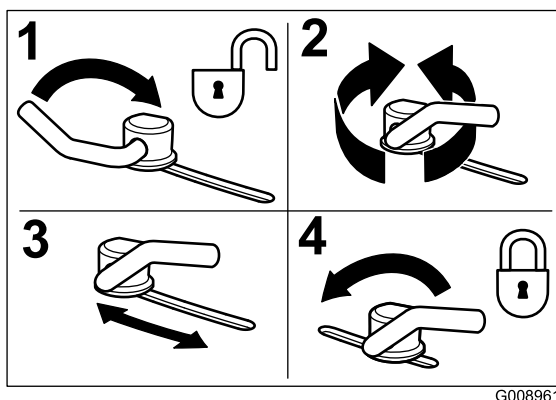

Figure 14
1. To adjust the cam locks, swing the lever up to loosen the cam lock (Figure 14).
3. Swing the lever back over to tighten the baffle and cam locks (Figure 14).